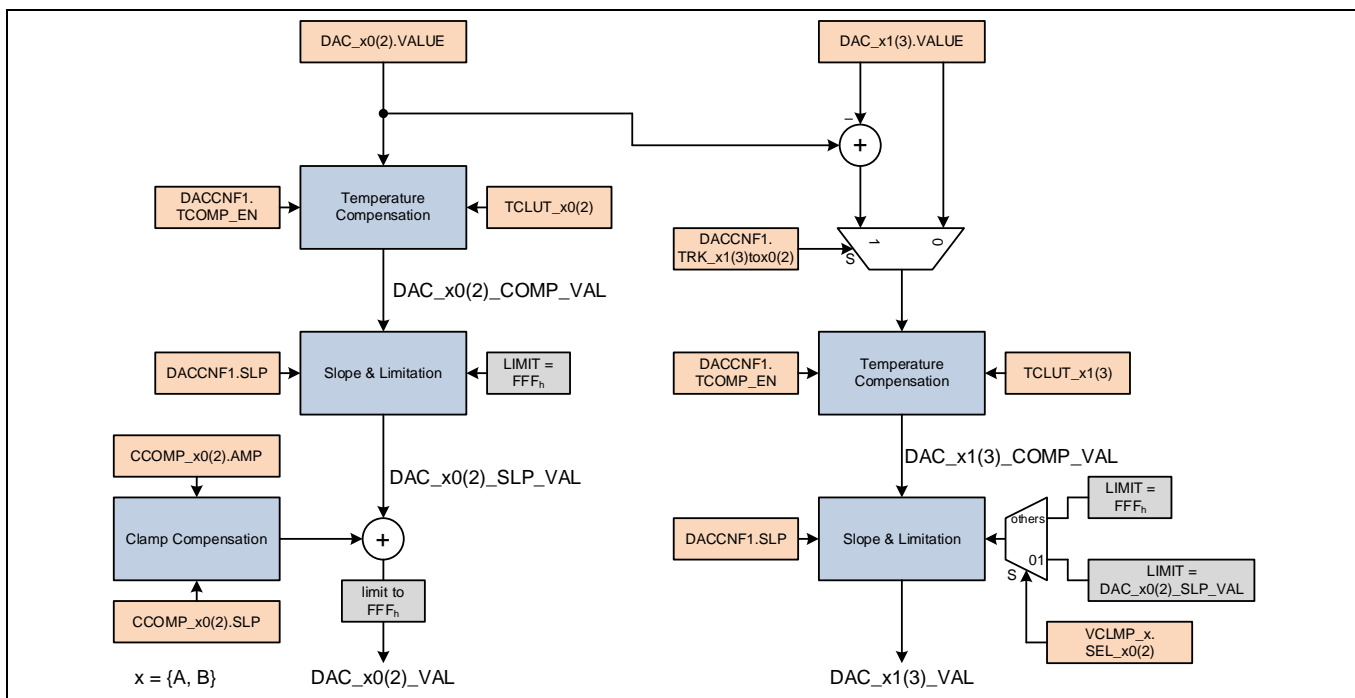

Figure 6 DAC value computation
The even DAC\_x0(2) values are directly controlled by the DAC\_x0.VALUE and DAC\_x2.VALUE register entries and can be optionally modified by several adjustment blocks before being applied to the DAC input (as shown on Figure 6): Temperature Compensation, Slope and Limitation, and Clamp Compensation that can temporarily change the output as well.